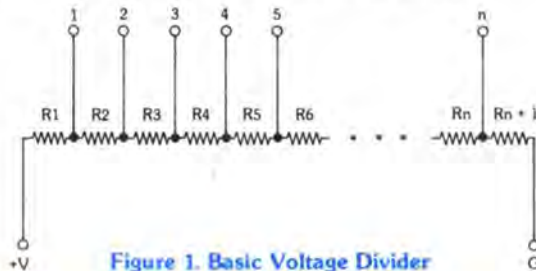

Figure 1. Basic Voltage Divider
The basic voltage divider — Two or more individual resistors connected in series comprise a voltage divider (see Figure 1). The purpose of this connection of resistors is to scale down or attenuate a voltage applied across the entire series combination. Thus, instead of working with the applied voltage directly, only a fraction of that voltage is utilized. Such attenuation is necessary when the magnitude of the applied voltage is greater than system components can handle directly.
Ideal voltage division — When voltage V_{in} is applied between ground (G) and +V (see Figure 1), the voltage (V_i) that appears at any of the taps can be expressed as: